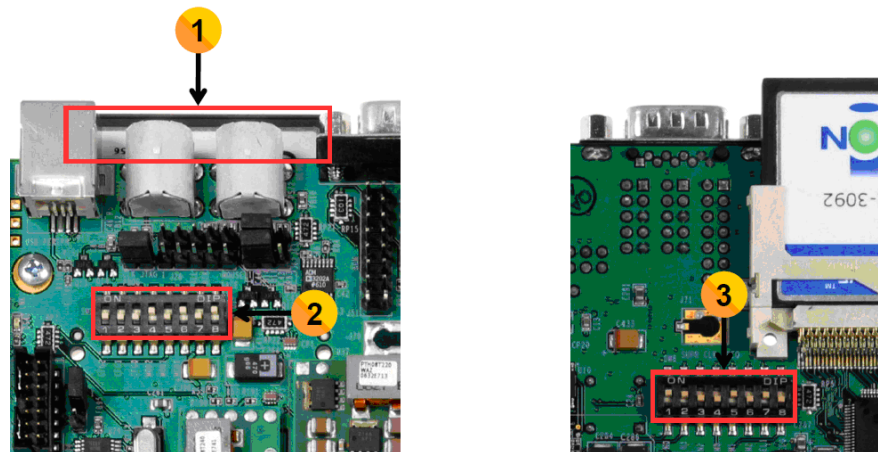

Figure 7: CompactFlash Card and Switch Settings
7. Insert the provided CompactFlash card into the board (Figure 7) as shown in (1) below
8. Set the Front DIP switches (SW3) to 00010101 (1=ON) as shown in (2) below
9. Set the Back DIP switches (SW6) to 11001010 as shown in (3) below